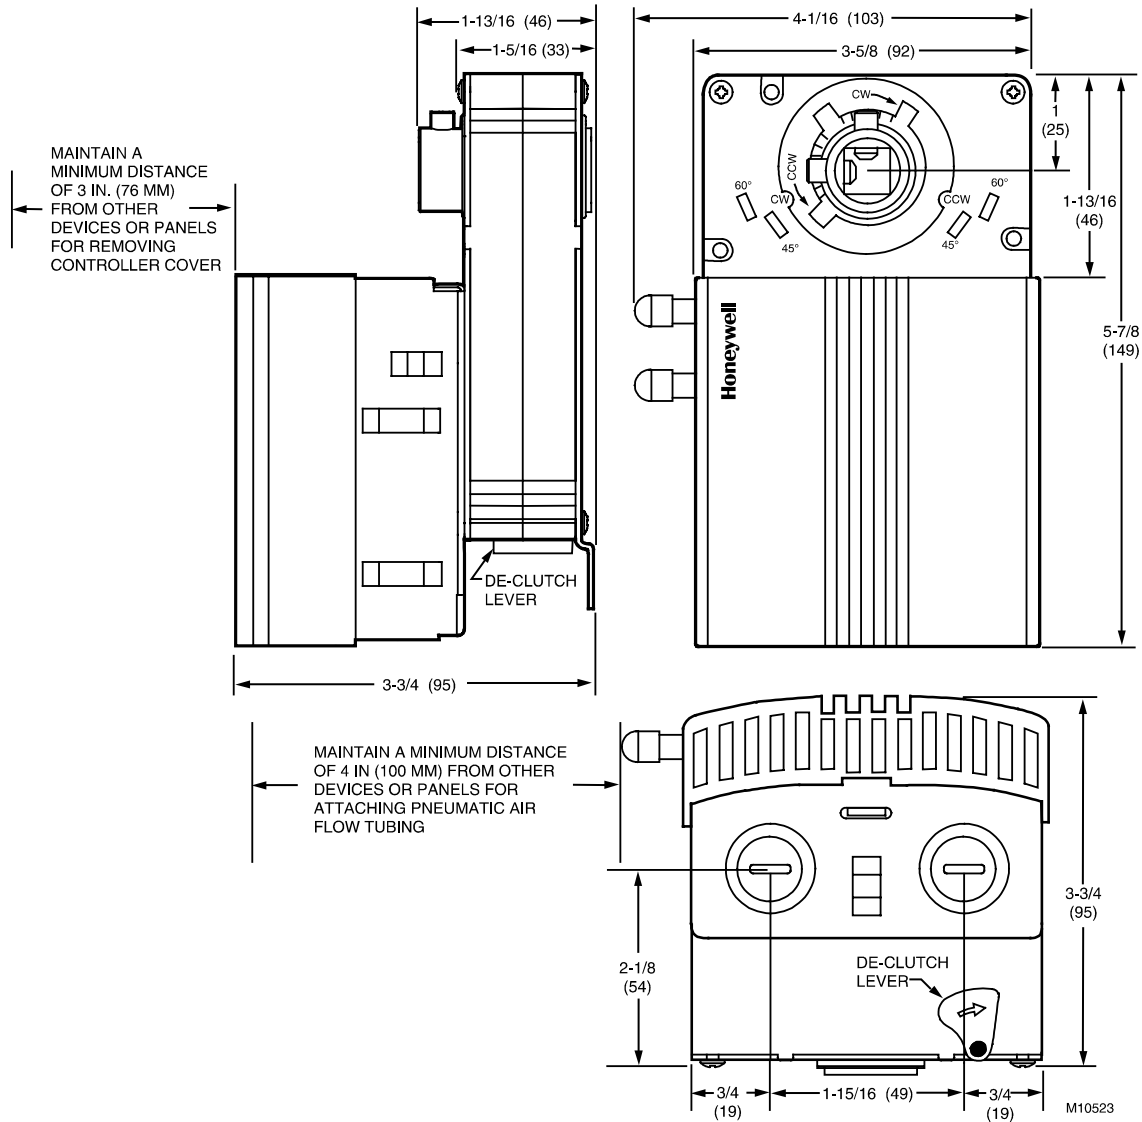

Fig. 2. W7751H mounting dimensions in in. (mm).
The ML6174 Direct-Coupled Actuator with De-clutch mechanism (see Fig. 2 for location) allows the installer to manually open or close the VAV box damper connected to the W7751H without power or Care/E-Vision to command it.
Mount the W7751H on the damper shaft (horizontally, only) and allow clearance for wiring, servicing, and module removal. Avoid mounting the W7751H in areas where acid fumes or other corrosive vapors can attack the actuator's metal parts, or in areas where escaping gas or other explosive vapors are present. See Fig. 2 for mounting dimensions.
The controller enclosure on the W7751H consists of a sheet metal housing and a plastic snap-on cover. Controller wiring on the W7751H is terminated to screw terminal blocks located under the snap-on cover. See Wiring section. The sheet metal housing has two 1/2-inch (13-mm) knockouts (see Fig. 2) compatible with 1/2-inch (13-mm) or 3/4-inch (19-mm) conduit.
*It is advisable that the dampers be left in an Open position after W7751H installation to avoid the possibility of over-pressurizing the ductwork on fan startup. Use the De-clutch lever (see Fig. 2 for De-clutch lever location) to open the box damper on W7751H controllers that are powered down, to prevent over-pressurization in the ductwork on fan startup. To use the De-clutch lever, press and hold the lever in the direction of the arrow (this dis-engages the motor). Turn the damper shaft until the damper is open and release the lever. When power is restored to the W7751H controller, the controller synchronizes the damper actuator so that the damper is in the correct position on startup.*